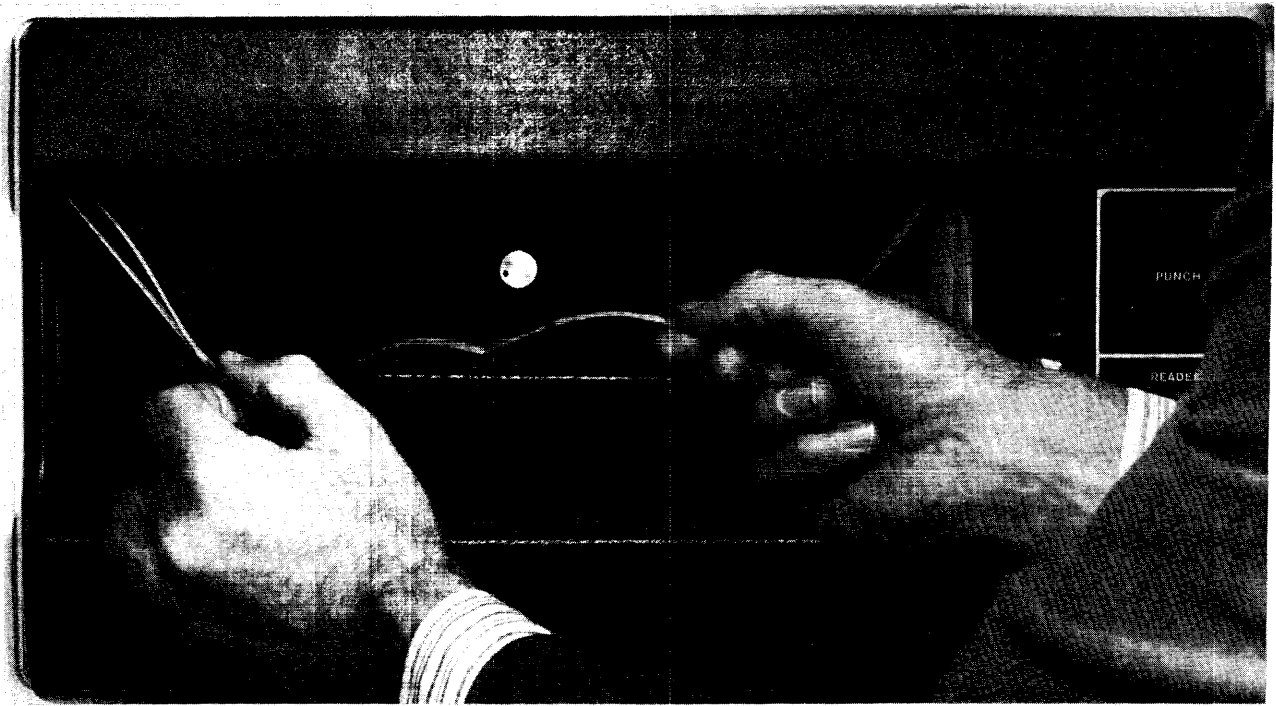

Figure 4-5c
8. Place the extended part of the tape edgewise under the tape retainer, shown in Figure 4-5c. The tape should now be lying flat across the read station, the printed side should be up, and the arrows should point from right to left.